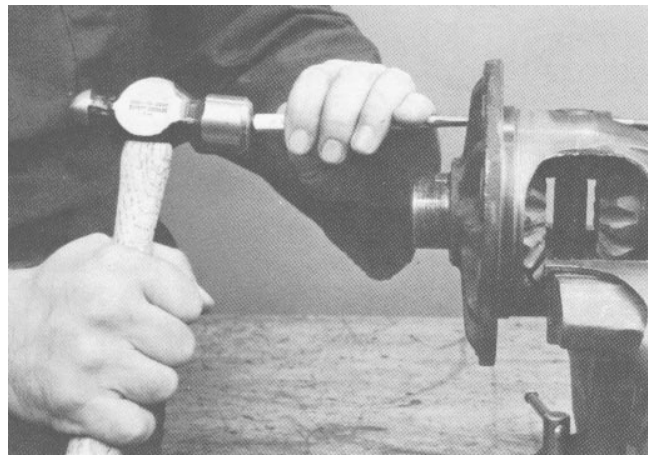

Figure 24
6. Put the case in a vise. Drive the lock pin out of the pinion shaft (Fig. 24). Use a small drift punch as shown.